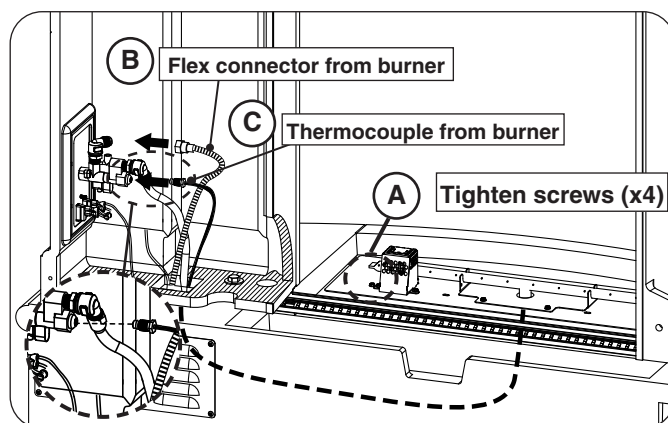

Fig. 25-4 Connect flex & thermocouple tube to valve
2. Use a $\frac{5}{16}$ " nut driver to fasten the burner to the base (see Fig. 25-4, A).
3. Locate the flex connector coming from beneath the burner assembly and connect it to the valve assembly found on the storage door side of the unit (see Fig. 25-4, B). Tighten securely.
4. Locate the thermocouple tube coming from beneath the burner assembly. **Carefully** route it to the valve assembly (found near the storage door side). Then gently hand tighten the nut into the valve, and finish with a half turn using a 10mm open end wrench or similar (approximately 35in/lbs of torque). See Fig. 25-4, C.